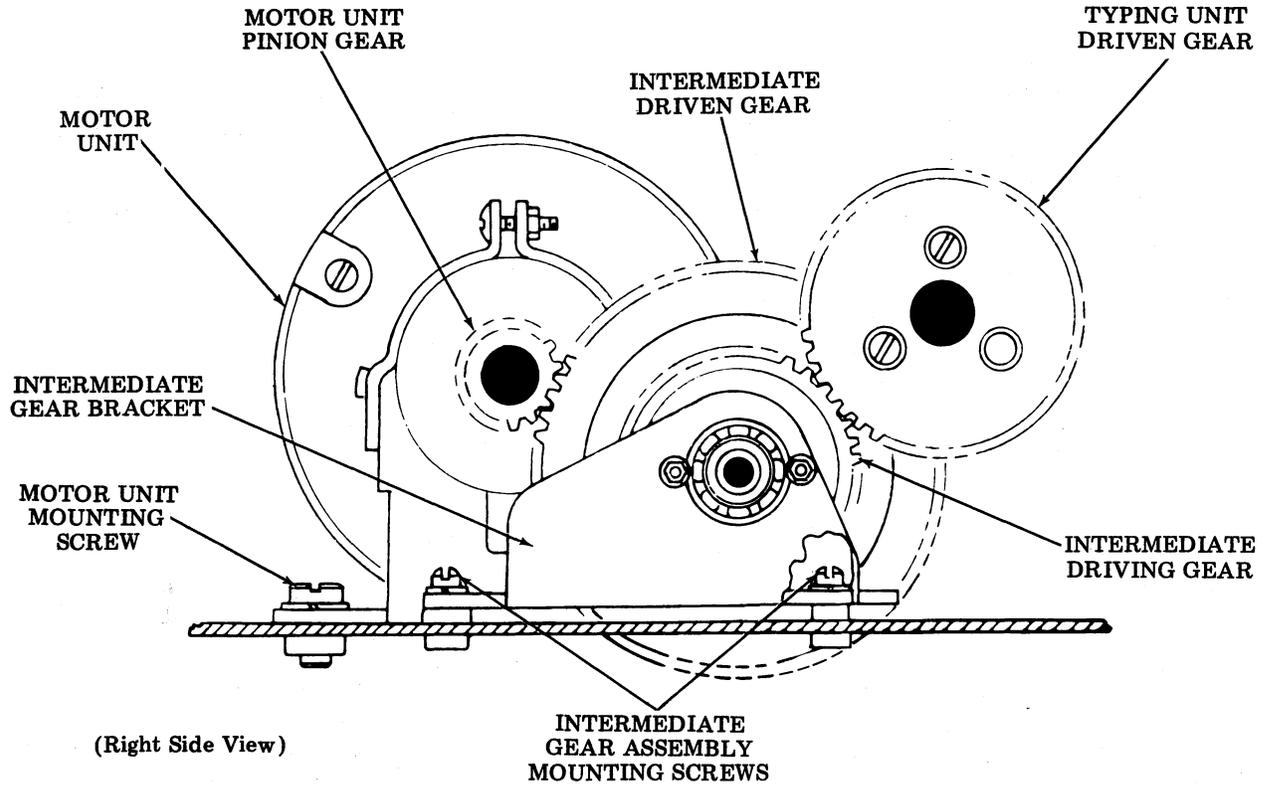

Figure 12 - Intermediate Gear Assembly
4.08 The motor intermediate gear assembly (Figure 12), and the typing unit driven gear should rotate freely without friction between the gears. The backlash should be barely perceptible as outlined in the requirements in the following paragraphs.